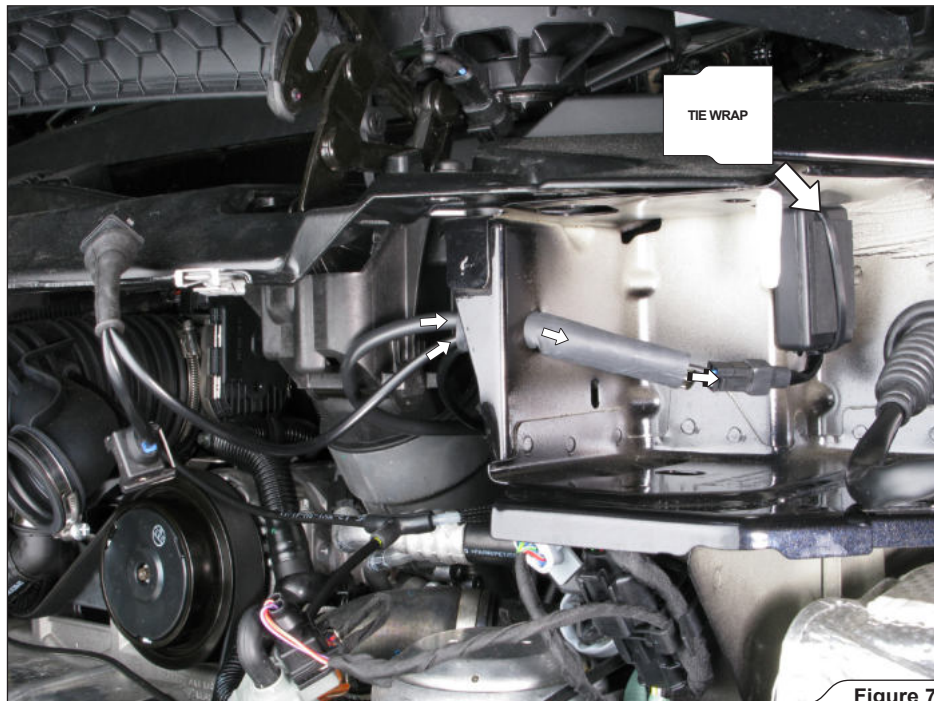

Figure 7
- Secure the transmitter to the chassis using tie wrap from Akrapovič installation kit and connect it to the wiring harness, as shown (**Figure 7**).